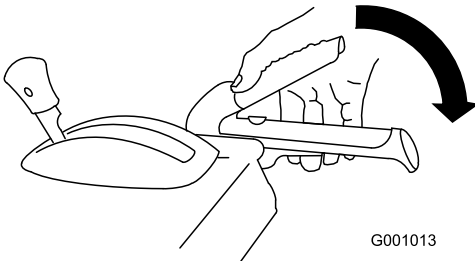

Figure 20
1. To engage the auger/impeller drive, squeeze the right (auger/impeller) lever to the handgrip (Figure 20).